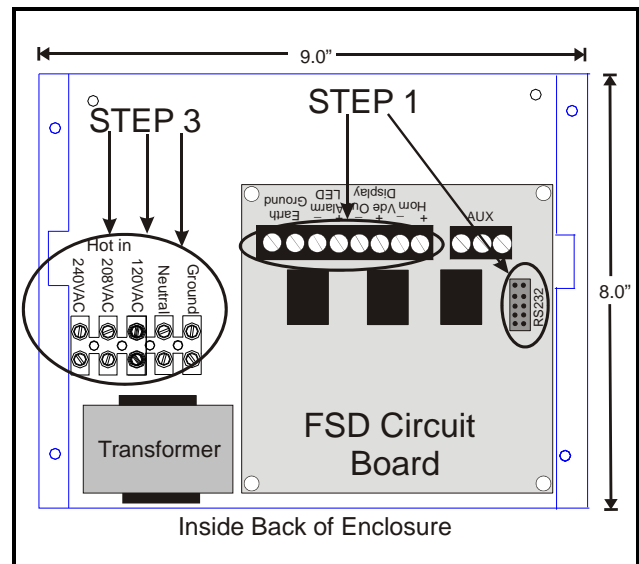

Figure 2-1 - 8-Pin Connector and RS232 Cable Connections
1. Using the four screws on the front of the mounting plate, unscrew the cover of the FSD and remove, exposing the back of the enclosure. Once the top has been separated from the back of the enclosure, unplug the 8-pin connector and RS232 cable (**Step 1** of *Figure 2-1*) from the circuit board (P/N 537-1100).
3. Once the unit has been mounted, depending on the voltage input, wire either 120VAC, 208VAC, or 240VAC Hot leg to the corresponding terminal block label. Then wire the Neutral or L2 leg to the terminal block labeled Neutral. Wire Ground to Ground as indicated by the **Step 3** of *Figure 2-1*.